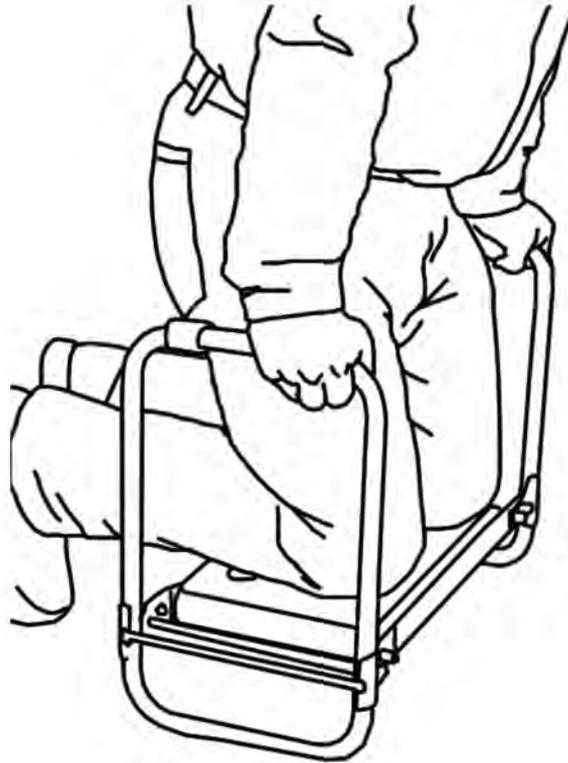

Fig. 6
- 6 **Fig. 6** below shows a garden kneeler which has been designed and manufactured by a local company which specialises in outdoor garden equipment. The garden kneeler is designed to take the strain out of getting up and down to do garden tasks.